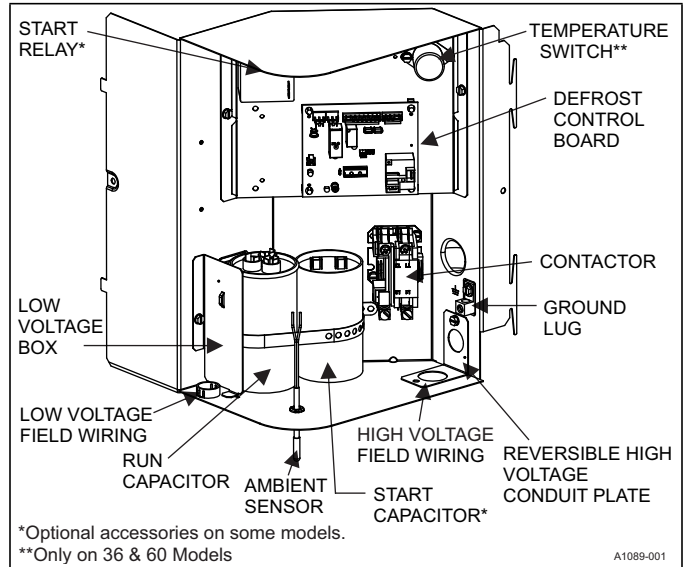
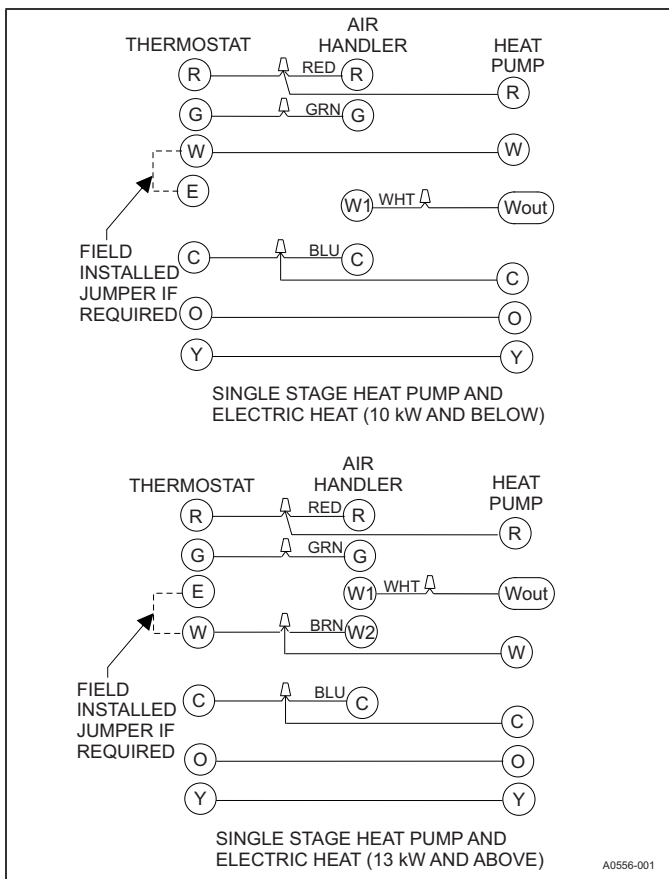

FIGURE 10: Outdoor Unit Control Box (208/230V Single Phase)
FIGURE 12: Typical Field Wiring (Air Handler / Electrical Heat) (Single and Three-Phase)
4. Route wires from disconnect through power wiring exit provided and into the unit control box as shown in Figures 10 & 11.
1. Route low voltage wiring into bottom of control box as shown in Figures 10 & 11. Make low voltage wiring connections inside the low voltage box per Figure 12.